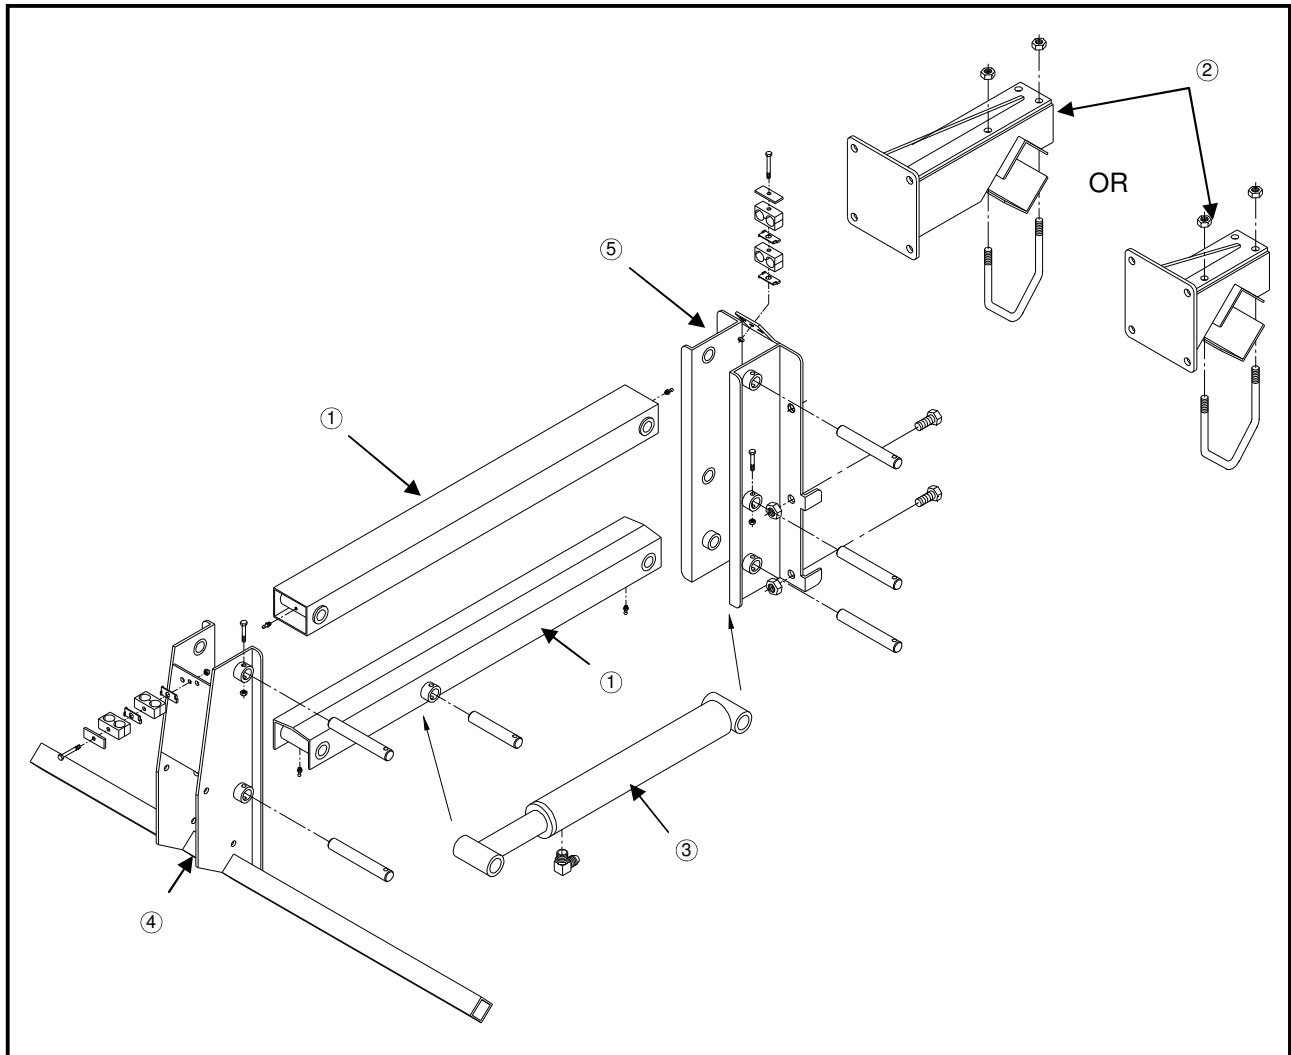

FIG 4.13
1. Attach the hoist column adapters (fig. 4.13, item 2) to the tool bar and outriggers at the appropriate spacing. Refer to the Hagie 204 Parts Manual for more information on spacing.
2. Attach the toolbar mounting bracket (fig. 4.13, item 5) to the hoist column adapters.
3. Attach the lift arms (fig. 4.13, item 1) to the toolbar mounting bracket (fig 4.13, item 5).
4. Attach the lift arm cylinders to the lift arm assemblies (fig. 4.13, item 3).
5. Attach the tool bar weldment to the lift arm assemblies (fig. 4.13, item 4).